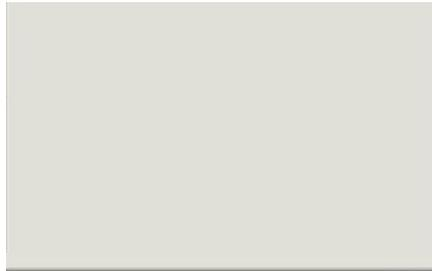
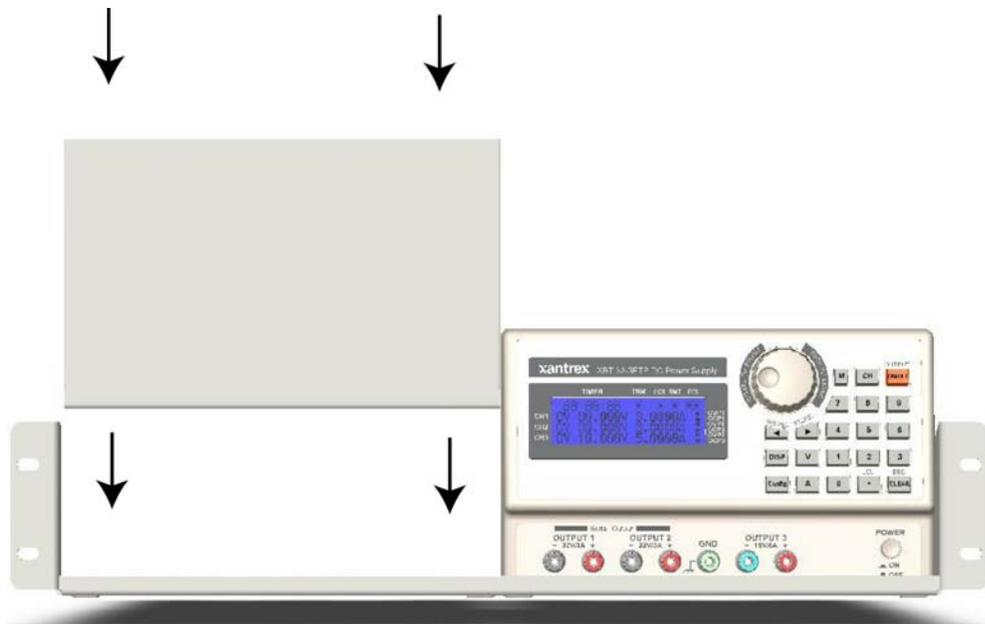

Figure 5. Filler Panel
Figure 6. Filler Panel Placement
8. Set filler panel (Figure 5) in blank space next to unit, flush with side and front lip of rackmount piece (Figure 6).